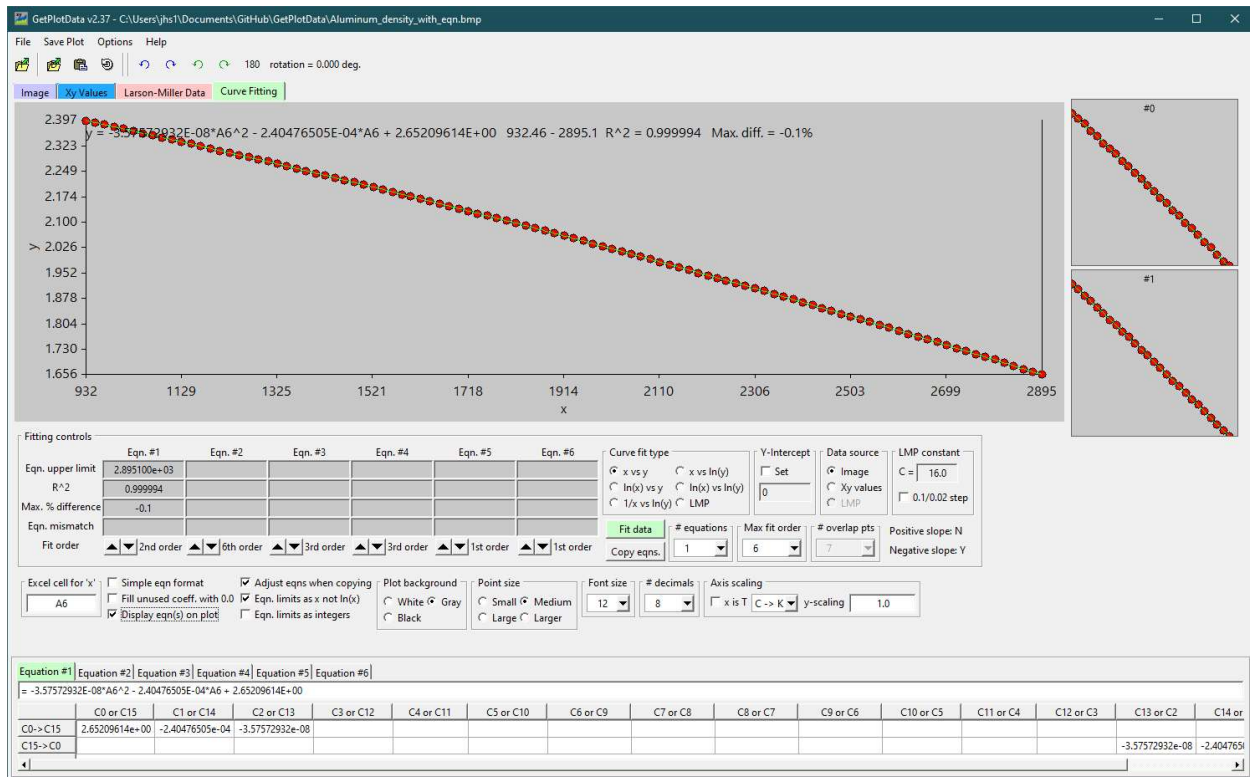
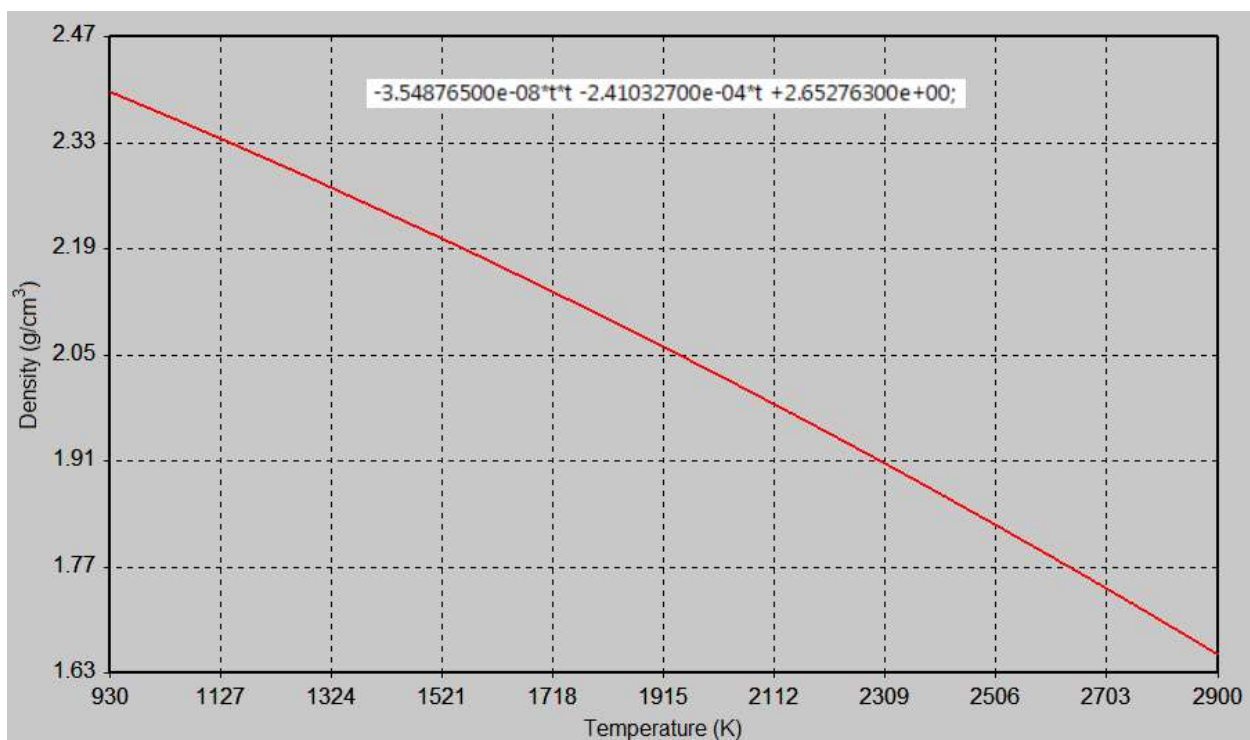

Figure 6. Curve fit.
Figure 7. Actual equation plotted.
Step 5: Curve Fitting (Figure 6)
- f) Figure 7 and Table I show a comparison of the real and fitted data. Figure 7 shows the plot used in this "howto" along with the actual equation plotted. The coefficients in Figure 6 were obtained by fitting the points picked-off this plot. While the coefficients are not exactly the same, a comparison of the actual and calculated values shown in Table I are in good agreement.